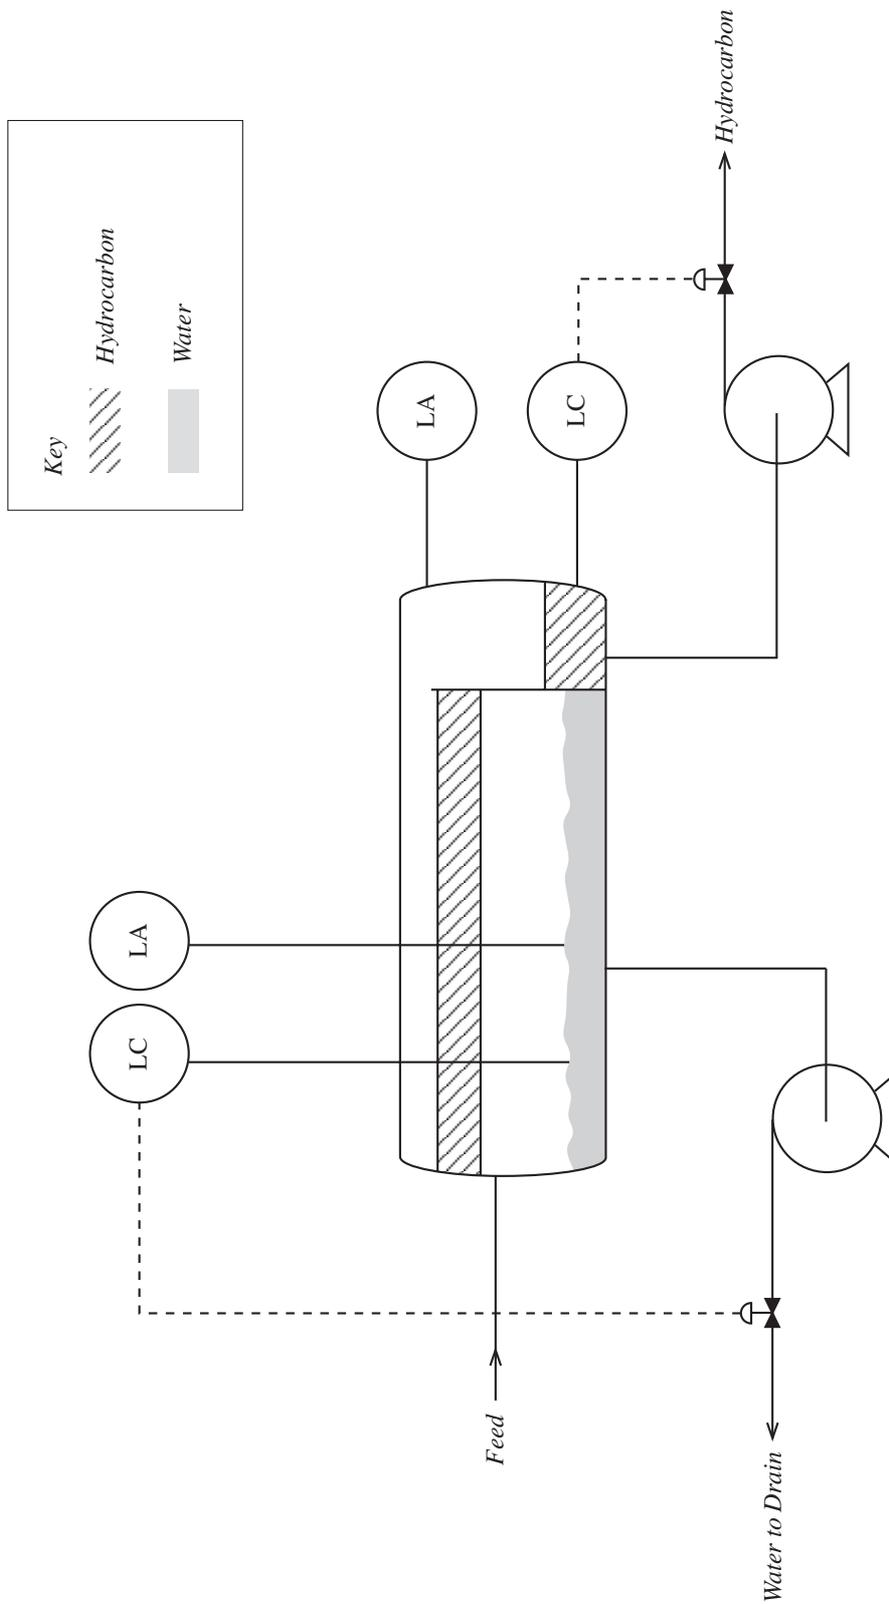

FIG. 2 Hydrocarbon/Water Settler System
8. FIGURE 2 shows an improved arrangement for separating water from the hydrocarbon liquid for the process in question 2. Two simple level control loops, LC, have been added to regulate flow control valves on a pumped system. Extra protection is also provided in the form of high level alarms, LA, one to each side of a baffle plate fitted in the tank.